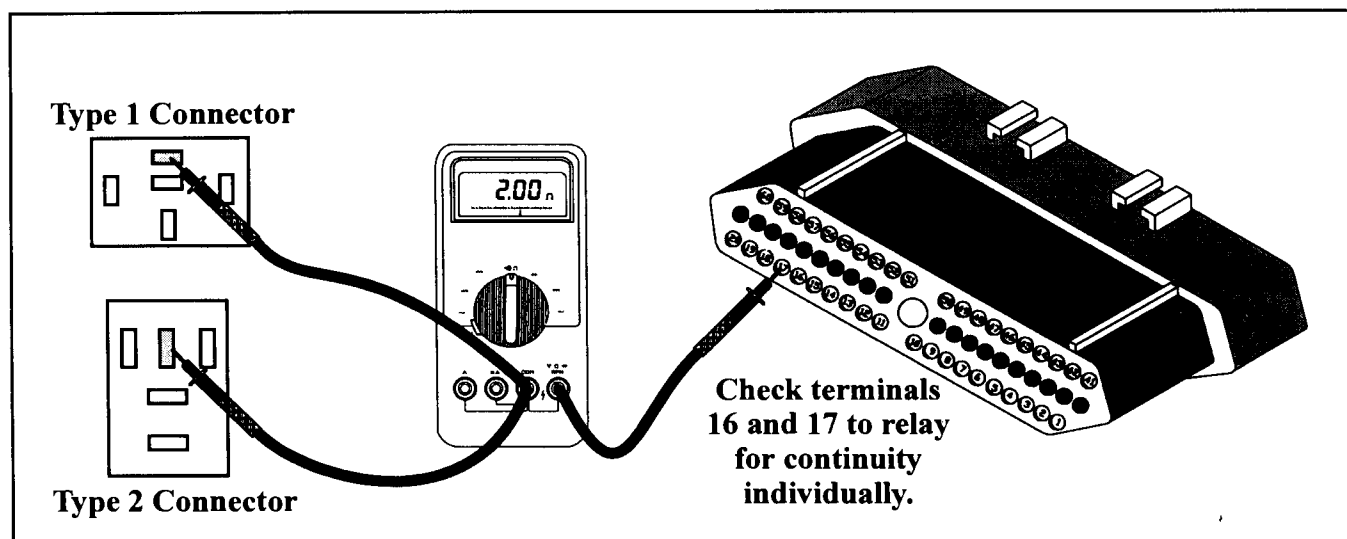

Figure 18
- Check for continuity between the relay connector and terminals 16 and 17 in the controller connector as shown in Figure 18. If an open is seen, repair the break in the wire that shows the open circuit. If continuity is seen, go to the next step.